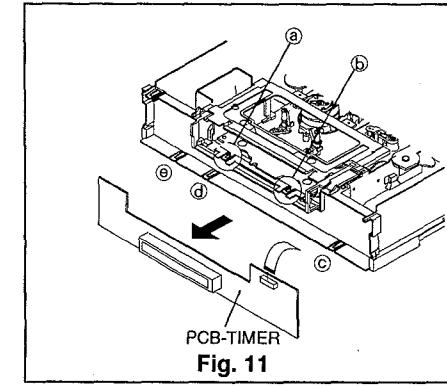

Fig. 11
- ③ Remove five catches (⑰~⑲), shown in Fig. 11, then remove the PCB-TIMER.